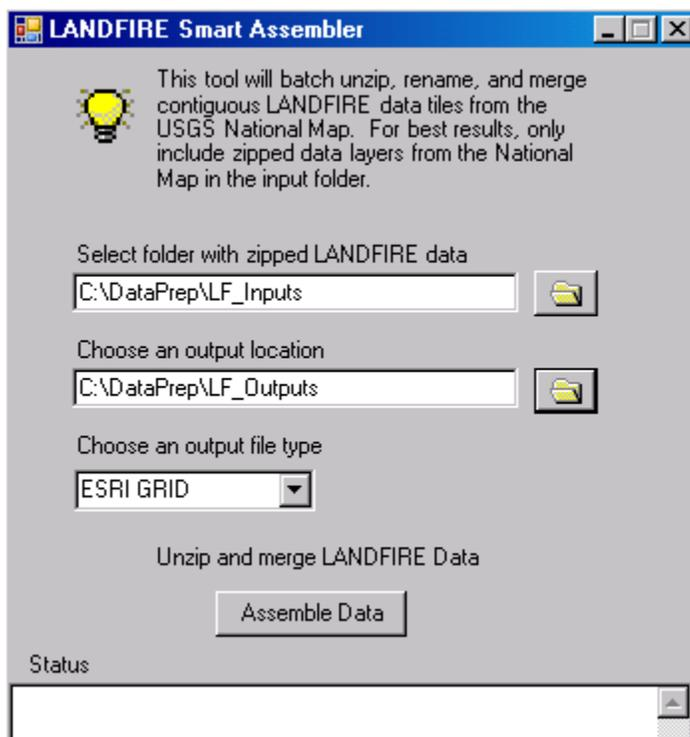

Figure 4-4. The *LANDFIRE Smart Assembler* dialog box.
13. In the top entry of the dialog box, navigate to the *LF\_Inputs* folder. Click the folder icon for an output location. Click **New Folder** and name the new folder *LF\_Outputs*. Keep the default output file type ESRI GRID. Use separate input and output folders for each download and processing session for best results. The ESRI GRID format will allow the Smart Assembler to attach attributes. Other options are available, but LFDAT does not automatically add the attributes with the Smart Assembler (fig. 4-4).